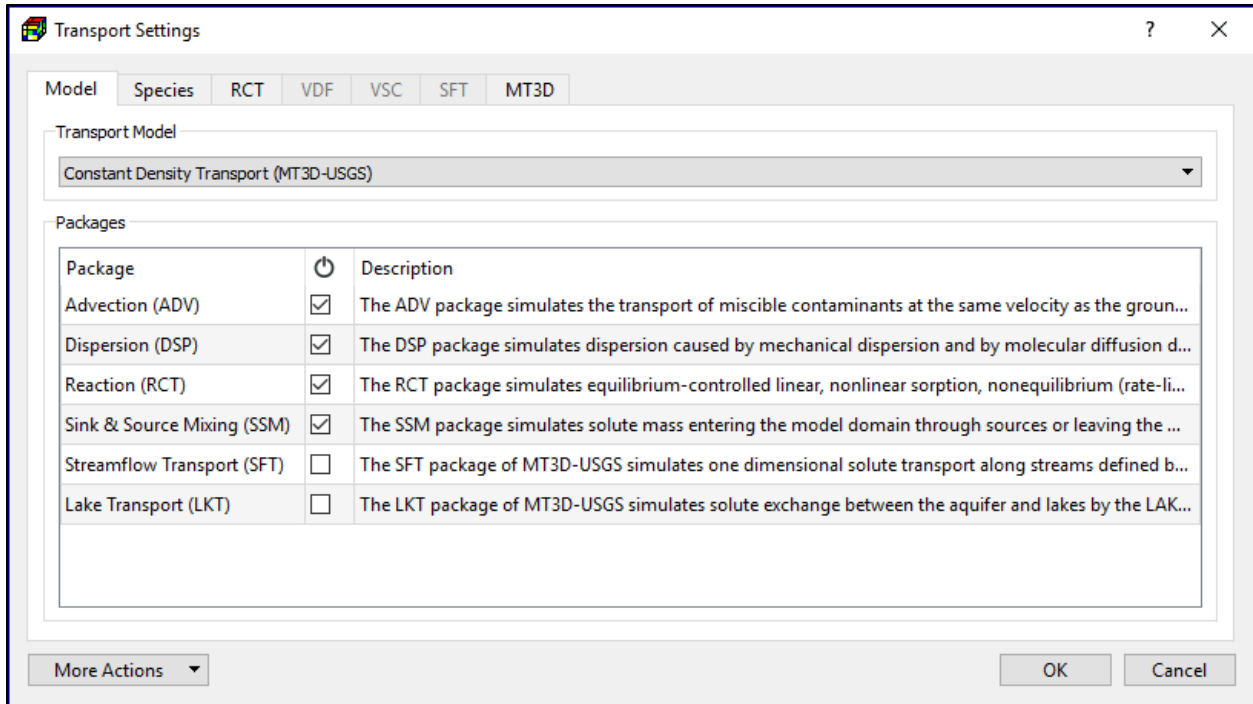

Figure 116. The Model tab of the Transport Settings dialog box
The first step to use MT3D or SEAWAT is to define the species, packages, and the reaction type in the Transport Settings dialog box (Figure 116). The features of this dialog box are detailed below.
2. Model Tab (Figure 116) defines the transport model and packages to be used in the simulation.